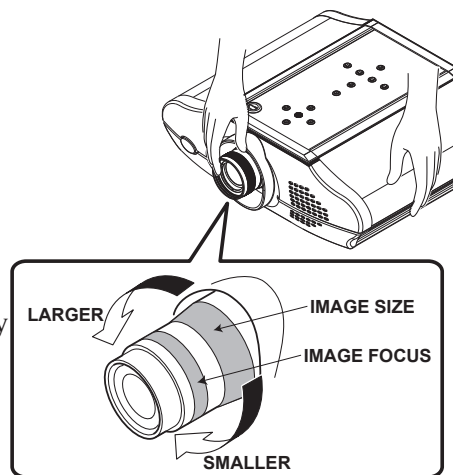

Figure 7
9. Using the Knurled Ring surfaces on the projector lens adjust the size and focus of the image. Refer to figure 7.
11. Using the Knurled Ring surfaces on the projector lens adjust the size and focus of the image. Refer to figure 7.
13. Using the knurled ring surfaces on the projector lens to adjust the size and focus of the image. Refer to figure 7.